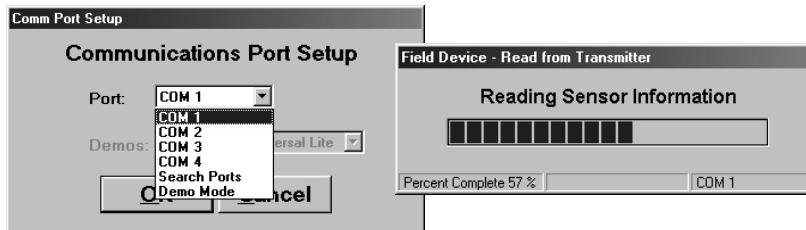

Figure 3-2
- E. Select communication port [Com 1, Com 2, etc.] and then click "OK." *See Figure 3-2.*